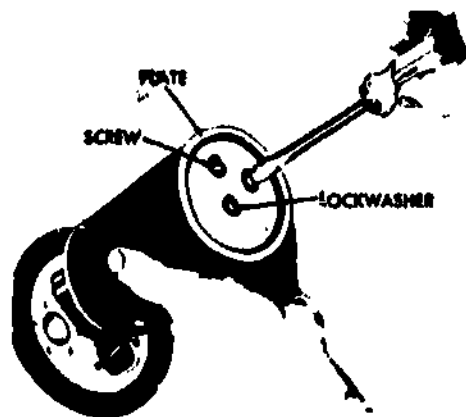

Fig 2-13. Removing screws from fuel pump.
c. **Repair.** If you are going to install a repair kit instead of a new pump assembly, proceed as follows. After the pump is removed, cover the fuel pump opening in the tank to keep any dirt from accidentally falling into the tank. Remove the three screws and washers that secure the filter retaining plate to the bottom of the fuel pump and lift off the retaining plate (fig 2-13).